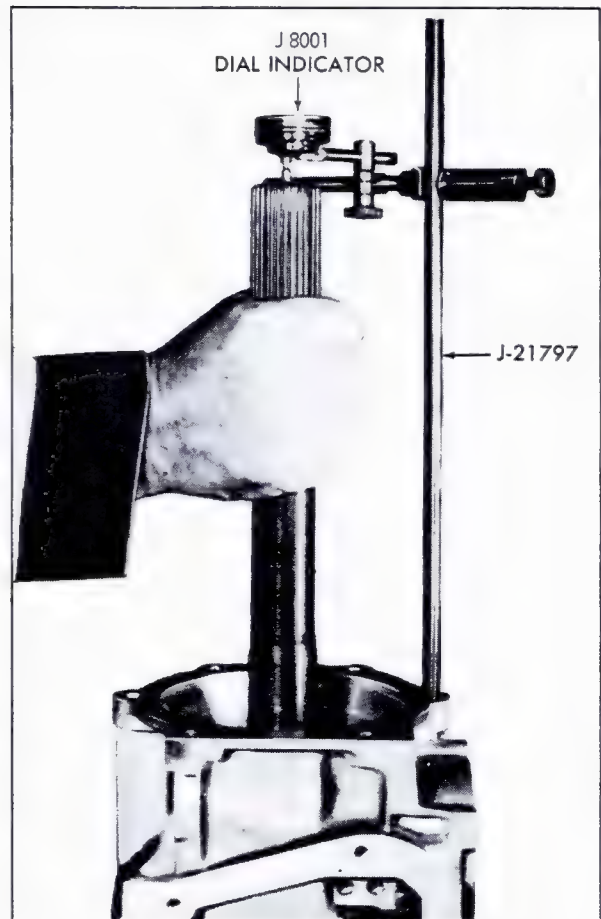

Fig. 7-56 Checking Rear Unit End Play
2. Mount Dial Indicator, J-8001, on Bolt, J-21797, and index indicator to register with flat surface on end of output shaft, Fig. 7-56.